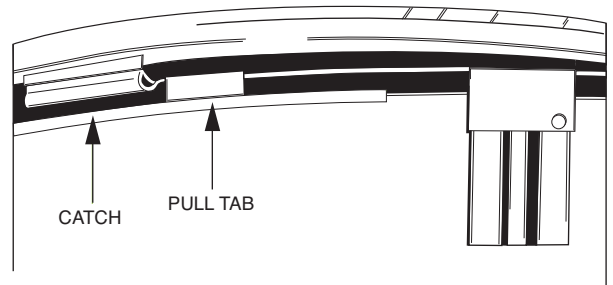

Fig. 36 — Latch Segment Retaining Brackets
3. Close and latch segment retaining brackets to the position shown in Fig. 36. Make certain the retaining bracket is fully engaged under the catch.